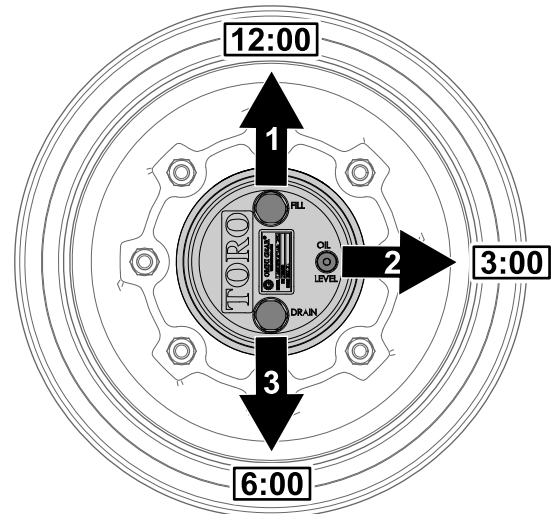

Figure 104
1. Park the machine on level surface and position the wheel so that the fill plug is at the 12 o'clock position, the check plug is at 3 o'clock position, and the drain plug is at the 6 o'clock position (Figure 104).
2. Remove the check plug at the 3 o'clock position (Figure 104).
1. Park the machine on level surface, position the wheel so that the fill plug is at the 12 o'clock position, the check plug is at 3 o'clock position, and the drain plug is at the 6 o'clock position; refer to Figure 104 in Checking the Planetary Gear-Drive Lubricant (page 73).